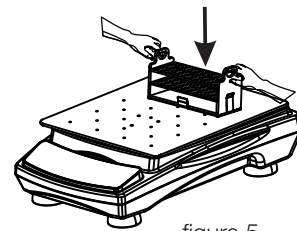

figure 5
2. Vertically clamp the tube rack into the tube rack holder and make sure the bottom of the tube rack is closely attached to the holder as shown in the figure 5.